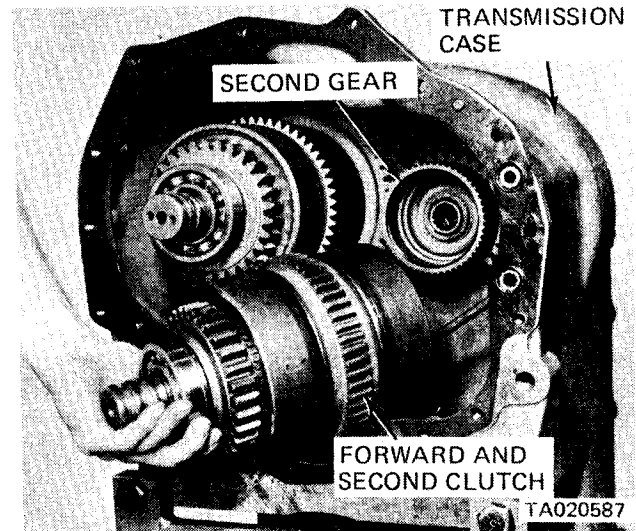

Figure 4-36. Forward and second clutch, removal and installation.
(32) Install parking brake (para 4-8).
(33) Install the forward and second clutch as shown in figure 4-36, carefully engaging splines of inner clutch discs with splines of second gear.